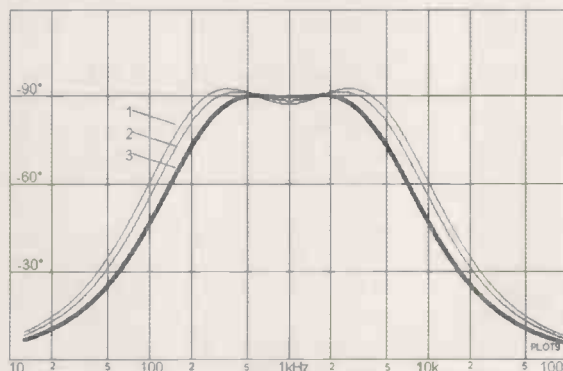

Fig. 7. Difference of two pairs of first-order sections, examples 1-3.
**Examples 2 and 3.** The difference between the peaks of the phase response curve, and the trough at the centre frequency could be termed the 'phase ripple'. It can be reduced by reducing the spread of the filter pairs. As this is done, the phase response becomes flatter, but it is no longer centred at  $90^\circ$ . It has to be corrected by adjusting the span. Figure 7 shows the effect of reducing the spread to 12 (Example 2) and to 9 (Example 3), while reducing the span appropriately.